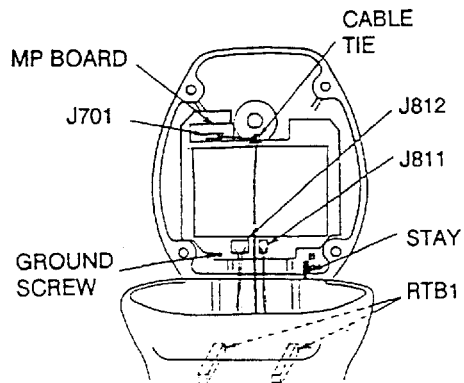

Figure 6-8 Parts Inside the Scanner Unit
4. Open the scanner housing cover and fix the stay as shown in Figure 6-8.
5. One end of the cable with 15-, 9- and 7-way plugs has already been connected to terminal board RTB1 inside the scanner housing. Mate the 15- and 9-way plugs with jacks J812 and J811 on the transceiver module, respectively. Connect the 7-way plug to jack J701 on the MP Board. Secure the cable between RTB1 and J701 with the cable tie as shown in Figure 6-8.
6. The black wire of the cable is the ground wire. Connect it to the chassis of the transceiver module with the ground screw shown in Figure 6-8.